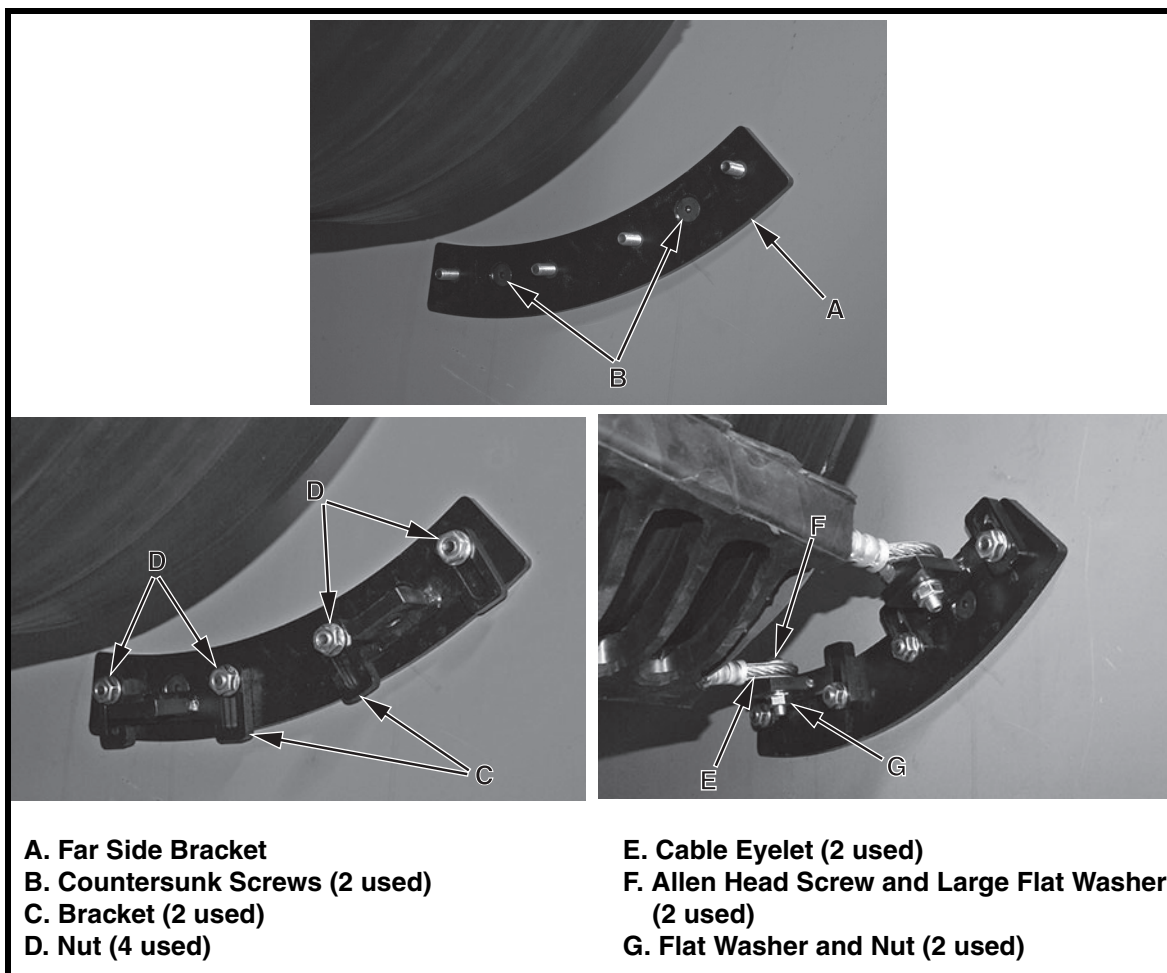

Figure 7. Installing Fixed Point Bracket
- d. Install brackets (C) using nuts (D). Hand tighten nuts (see Figure 7).
- e. Attach cleaner to far side bracket by inserting hex head screw and large flat washer (B) through cable hook (A) and fastening with flat washer and nut (C). Hand tighten nuts.